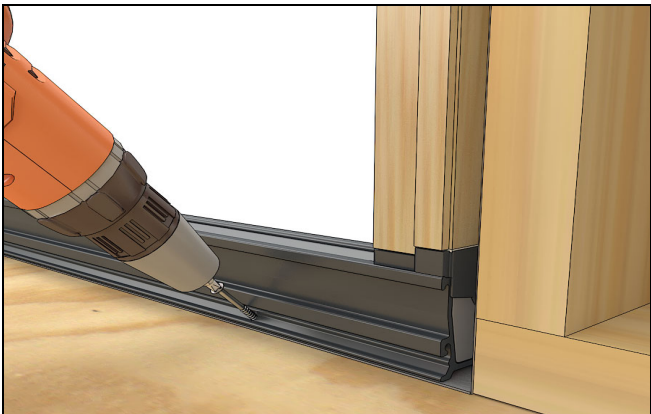

Figure 13
4. Fasten sill through all pre-drilled holes. Apply sealant to the threads of each screw prior to fastening. Use appropriate fastener for rough opening materials. ((#8 x 1-1/2" screws minimum if using flat sill pan. Refer to Site Prep Guide for alternative installation methods). See Figure 13.